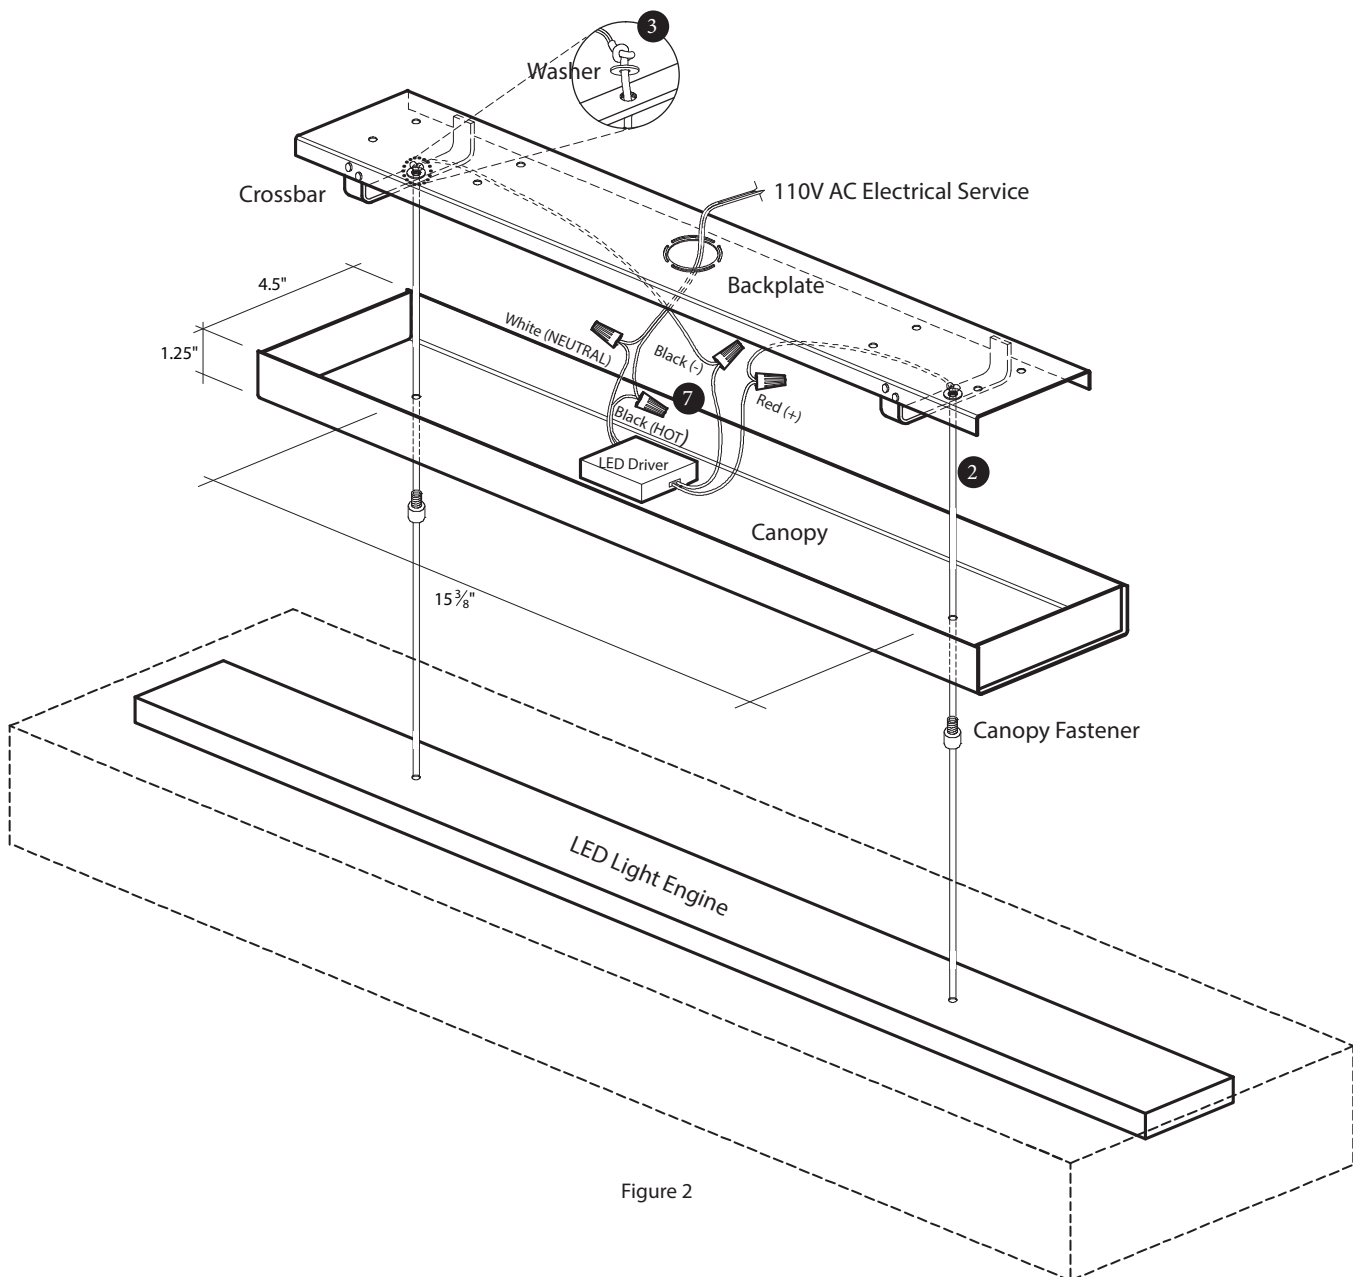

Figure 2
- 7 Make electrical connections as shown in figure 2 using the supplied wire nuts.